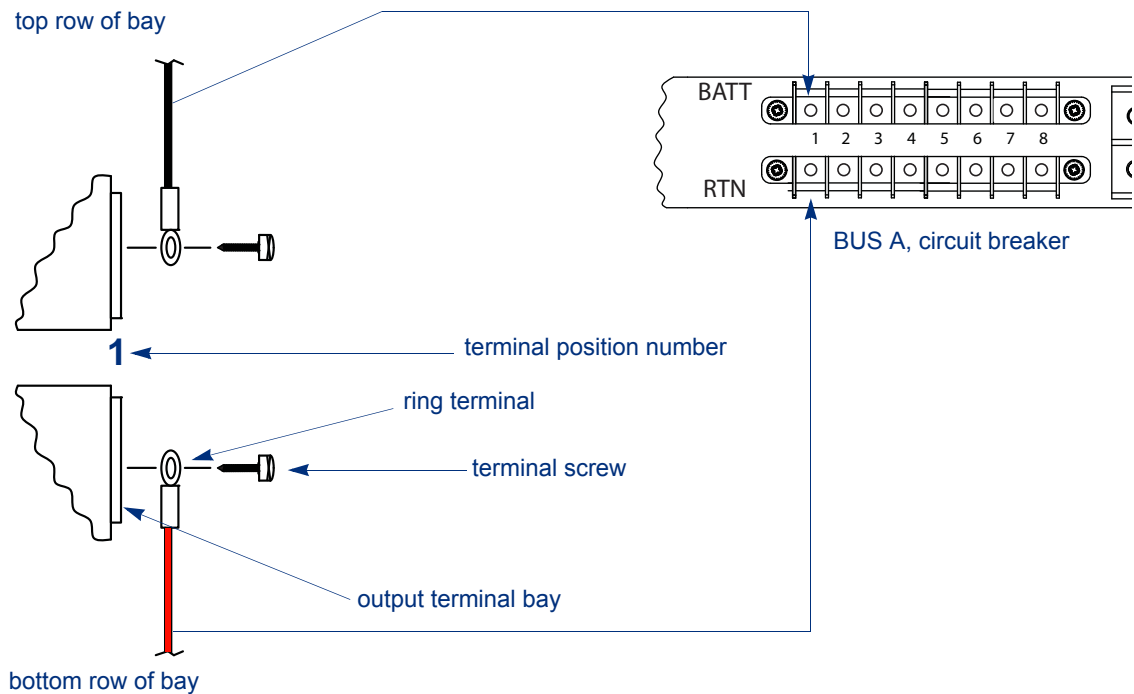

Figure 28. Circuit breaker output power ring terminal assembly
6. On the rear of the circuit breaker, place one side of a set of the #10 AWG ring terminals over the top and bottom number 1 slots of BUS A's output terminals as shown in Figure 28.